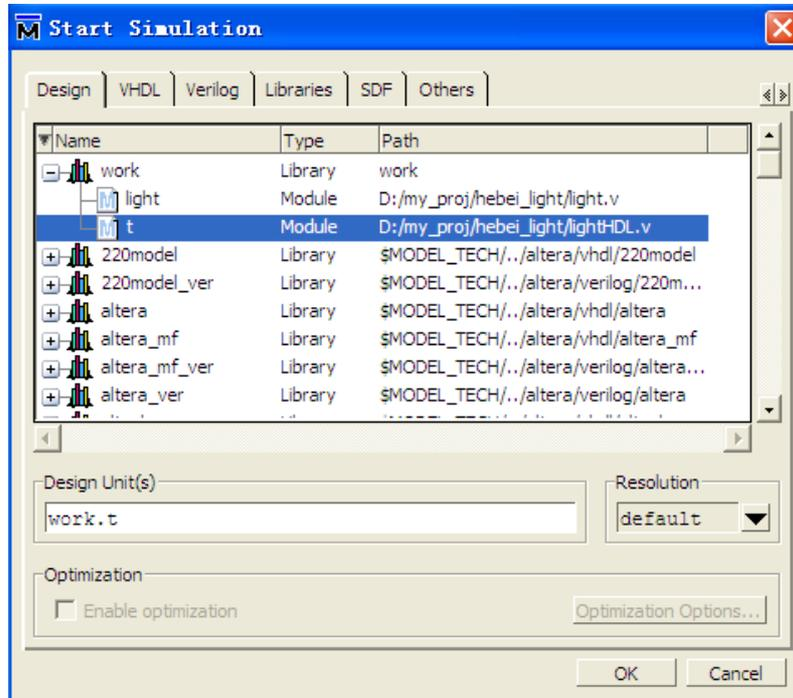

Figure 37.Choose Simulation Object
9. Load the Design and Click Menu **Simulate >Simulate**, then the interface shown in Figure 37 will appear.
b. Click on the **+** icon to expand the work library (Figure 37).